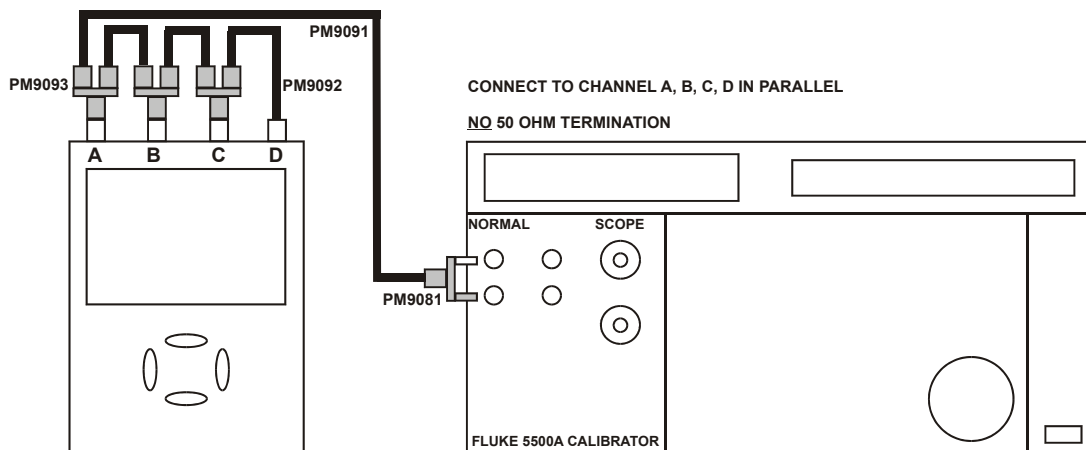

Figure 5-8. Test Tool Input ABCD to 5500A Normal Output
2. Connect the Test Tool to the 5500A as shown in Figure 5-8.